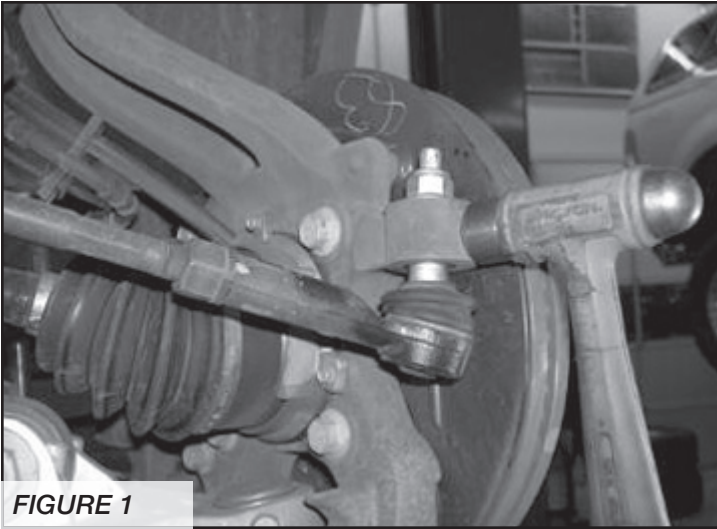

FIGURE 1
4. Working from the driver side of the vehicle, disconnect the tie rod ends from the steering knuckle by striking the knuckle to dislodge the tie rod end. **SEE FIGURE 1**